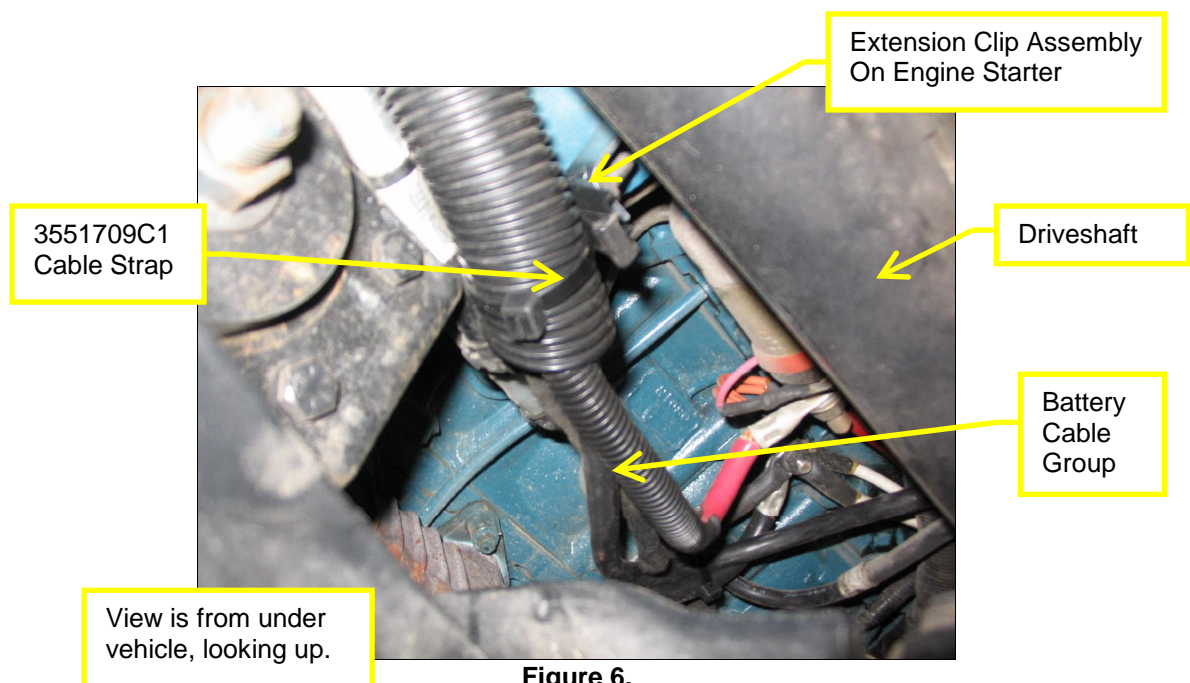

Figure 6.
11. Route the positive cable, negative cable, and clean power to ground cable together at the extension clip assembly installed on the engine starter using 3551709C1 cable strap as shown in Figure 6.